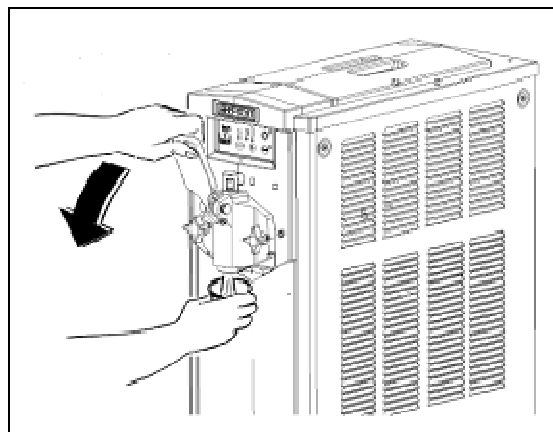

Fig. 37
- To dispense, place a glass under the tap and pull the lever as shown in fig. 37. The beater will begin to rotate again, starting the dispensing phase.